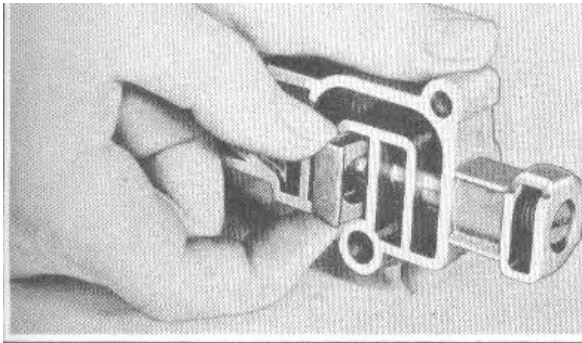
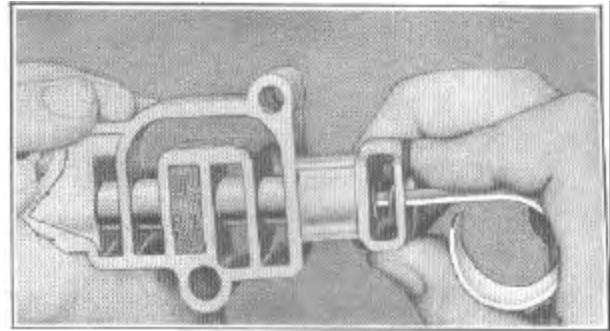
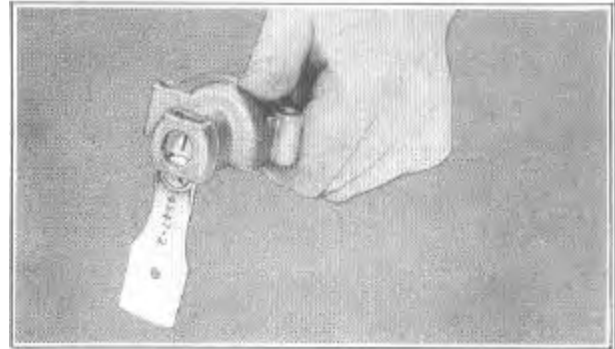

FIGURE 57
FIGURE 59
FIGURE 60
1. Remove the rear pump relief valve screen, Figure 57.
2. Compress the rear pump relief valve spring with the bayonet type Spring Unloader J-4547, Figure 59, and position the spring retainer tool (Part of Spring Unloader set J-4547) between
the spring retainer and spring, Figure 60.
2. Install the rear pump relief valve piston (6) and springs (7) and (8) into the valve body. Compress the springs with Valve Spring Unloader Tool J-4547, Figure 59. Slip the spring retainer tool in position, Figure 60, (flanges of tool up) and withdraw the compressor tool.
3. With retainer tool in position, install spring retainer (9). Insert the compressor tool to compress the springs while removing the retainer tool.
4. Install the rear pump relief valve screen, Figure 57, making sure the screen is fully seated in the passage and flush with or below the surface of the valve body.